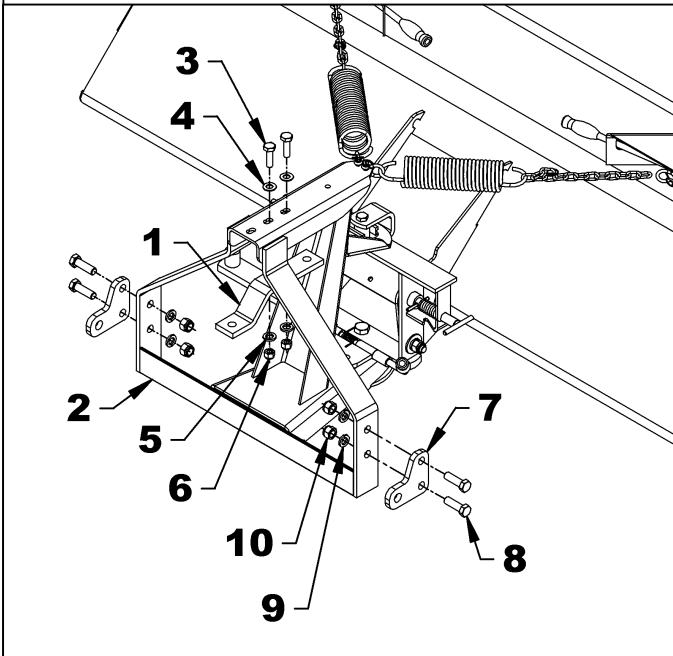

Figure 9C
- If the A distance is equal or smaller than 3", proceed with the Installation option 2 - figures 9C-10C